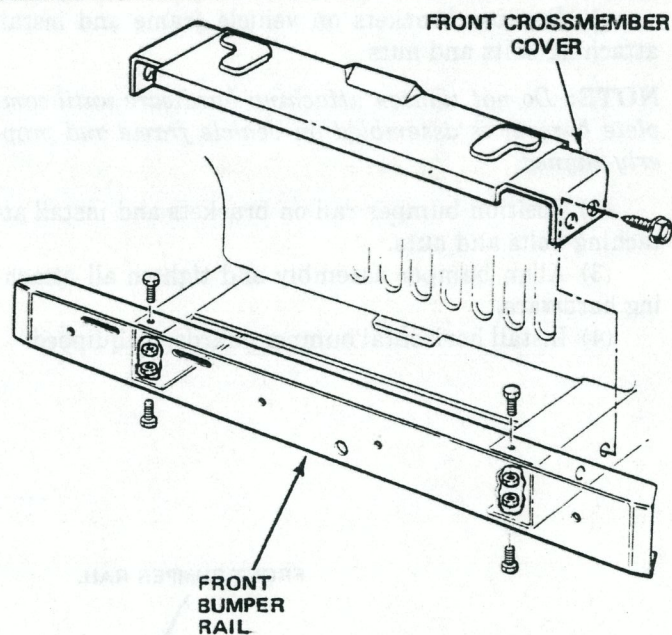

Fig. 3F-17 Front Bumper—CJ Models
Front bumper guards are available as an option on standard bumpers on all except CJ models. All CJ models have a new front crossmember cover which covers the area between the grille panel and front bumper rail (fig. 3F-17).
- (1) Disconnect and remove fog lamps, if equipped.
- (2) Remove nuts and bolts attaching front bumper rail (fig. 3F-17) to frame extensions.
- (3) Remove front bumper rail from frame extensions.
- (1) Remove nuts and bolts attaching front crossmember cover (fig. 3F-17) to frame extensions.
- (2) Remove front crossmember cover from frame extensions.